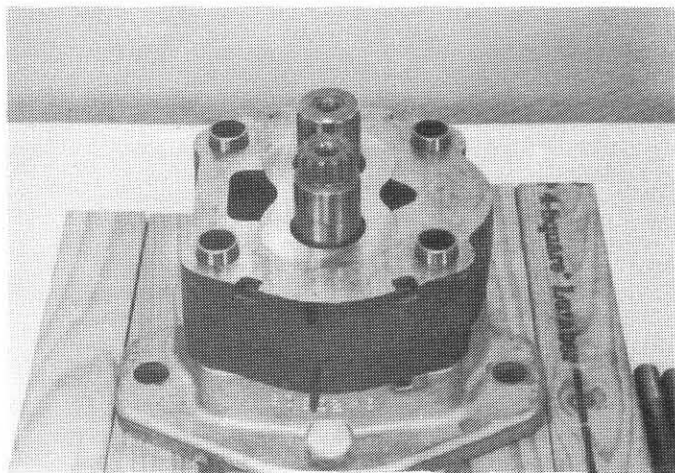

FIG. 25
35. Install o-rings (12) in pressure plate (13). With the trap in the pressure plate facing toward the discharge side, place the bronze side of the plate down against the gear faces. (Fig. 25)